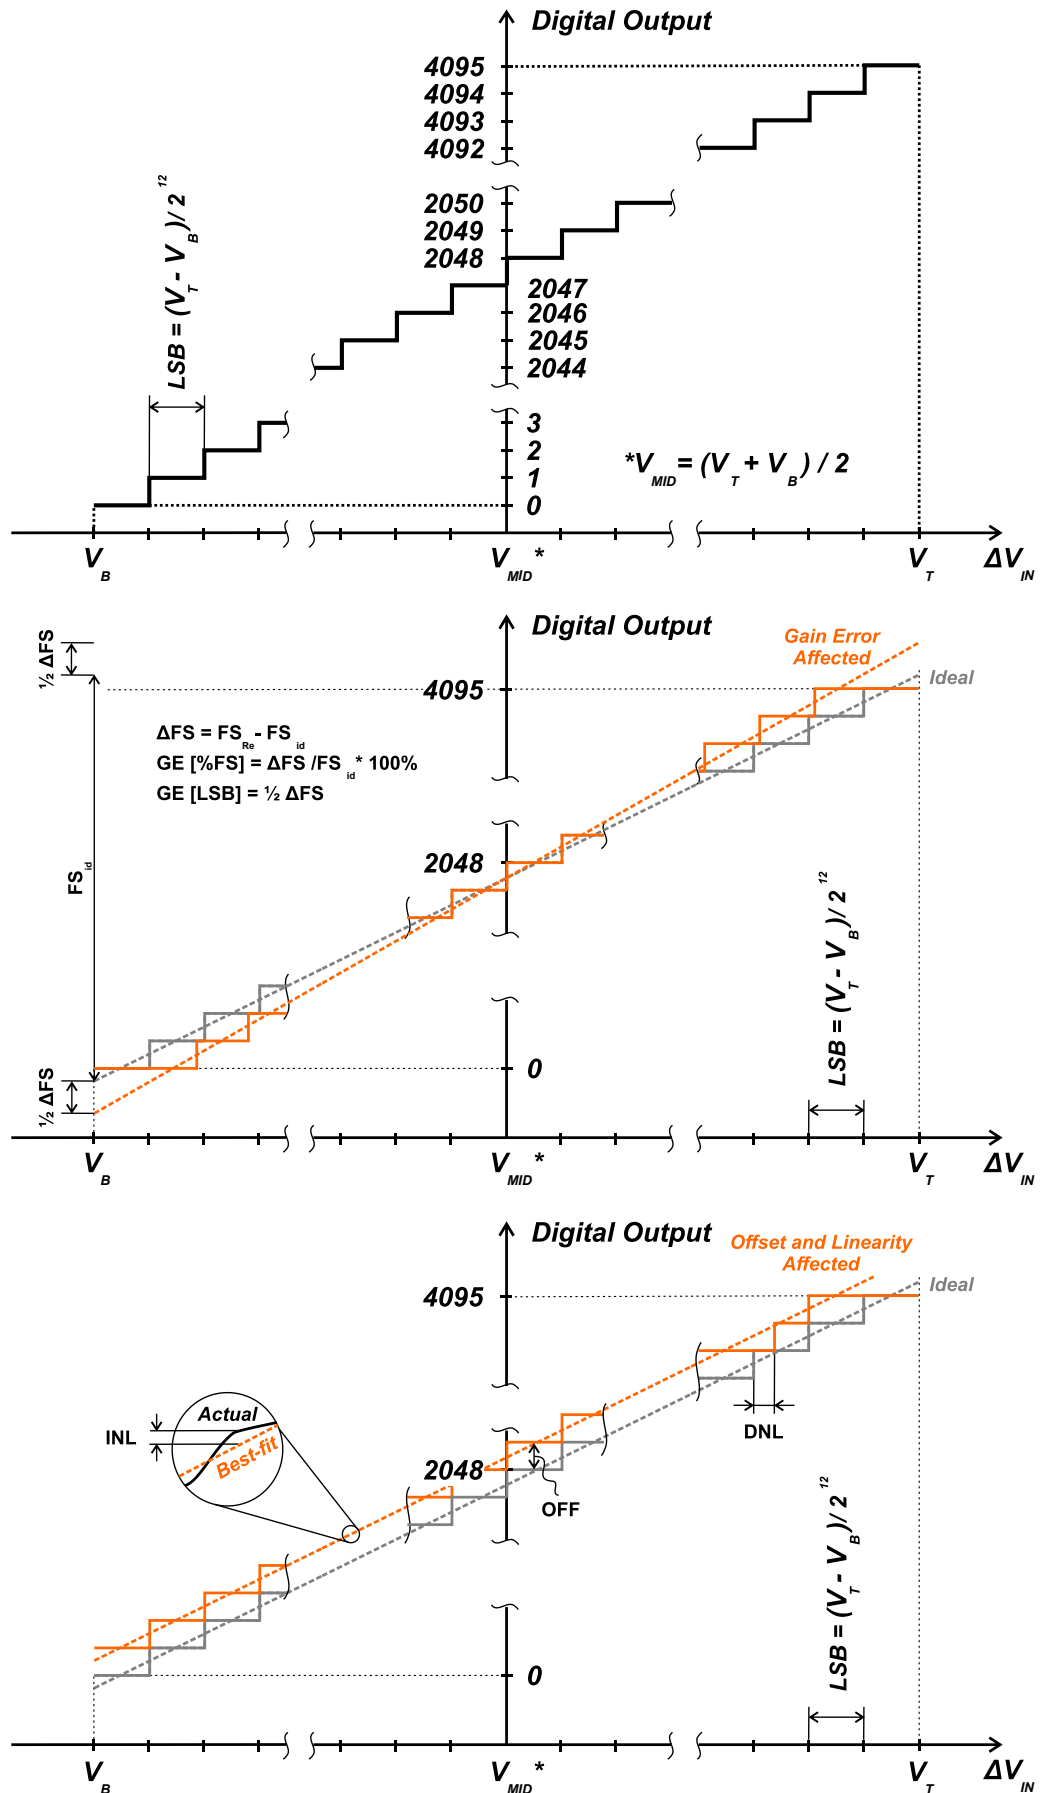

Figure 7 – ADC transfer function and its errors
The ideal ADC transfer characteristic is shown at the top of Figure 7. The values V_B , V_T , LSB in the figure correspond to the parameters U_B , U_T , EMP in Table 2. The middle and bottom parts of Figure 7 illustrate how the static errors of the ADC are calculated: gain error (GE), offset error (OFF), integral nonlinearity (INL) and differential nonlinearity.